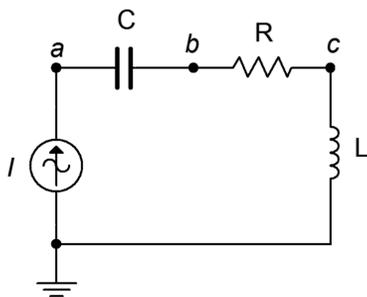

Figure 2.28
46. For the circuit of Figure 2.28, determine  $v_{ac}$ ,  $v_b$  and  $v_c$ . The source is a 10 mA peak-peak sine at 50 kHz,  $R = 2 \text{ k}\Omega$ ,  $C = 10 \text{ nF}$  and  $L = 800 \text{ }\mu\text{H}$ .